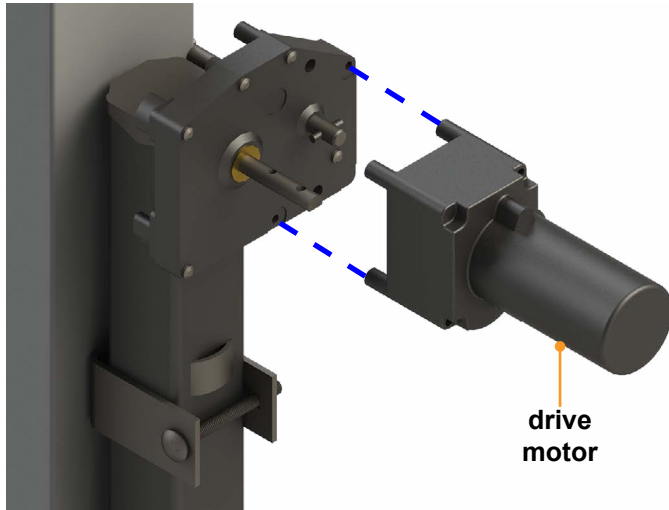

Fig.7
10. Attach the drive motor to the gear box with two motor bolts (Fig.7).